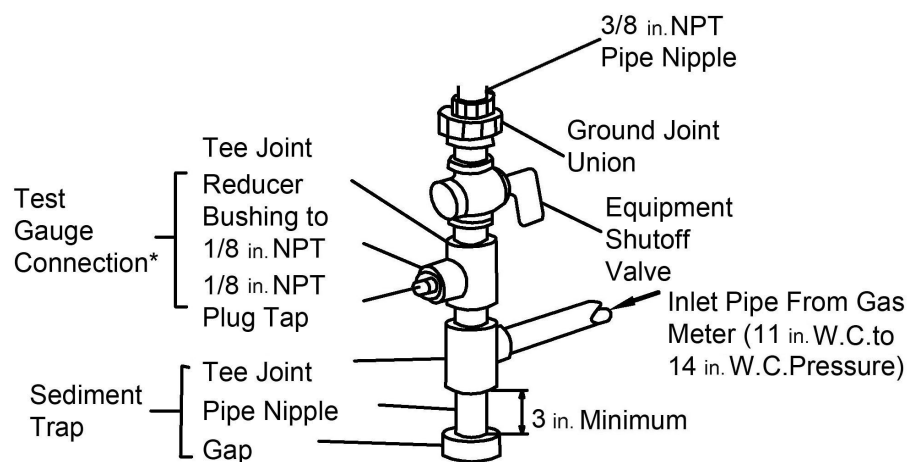

Figure 11 - Gas Connection (inches)
**Typical Inlet Pipe Diameters** Use 3/8-inch black iron pipe or greater. Installation must include an equipment shutoff valve, union, and plugged 1/8-inch NPT tap. Locate NPT tap within reach for test gauge hook up. NPT tap must be upstream from heater (see Figure 11).
Install sediment trap in supply line as shown in Figure 11. Place sediment trap where it is within reach for cleaning. Place sediment trap where trapped matter is not likely to freeze. A sediment trap traps moisture and contaminants. This keeps them from going into heater controls. If sediment trap is not installed or is installed wrong, heater may not run properly.